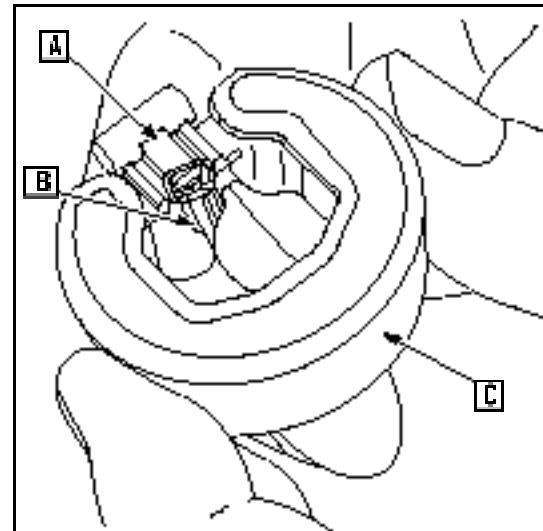

Fig. 89
15. Slide fuel needle valve assembly (A) on to tab (B) of float ([C] Fig. 89).